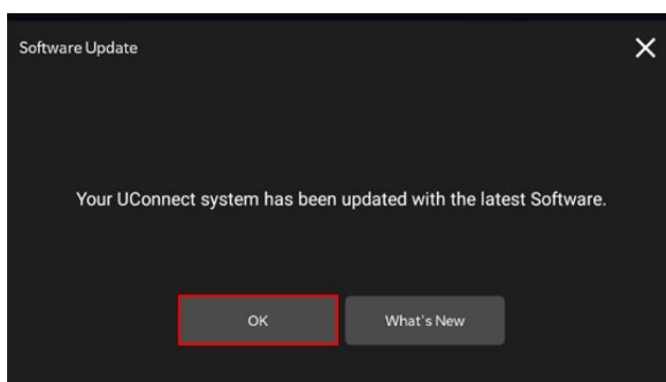

Fig. 7
19. Press “OK” to continue Fig. 7.